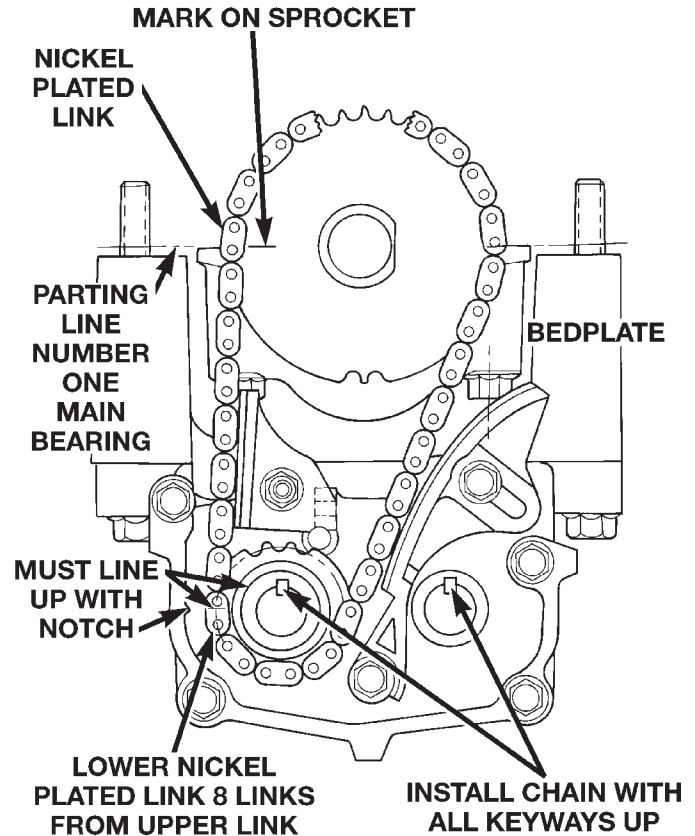

Fig. 41 Balance Shaft Timing
(5) Turn crankshaft until number one cylinder is at Top Dead Center (TDC). The timing marks on the chain sprocket should line up with the parting line on the left side of number one main bearing cap. (Fig. 41).
(6) Place chain over crankshaft sprocket so that the nickel plated link of the chain is over the number 1 cylinder timing mark on the crankshaft sprocket (Fig. 41).
(7) Place balance shaft sprocket into the timing chain (Fig. 41) so that the timing mark on the sprocket (yellow dot) mates with the (lower) nickel plated link on the chain
(8) With balance shaft keyways pointing up (12 o'clock) slide the balance shaft sprocket onto the nose